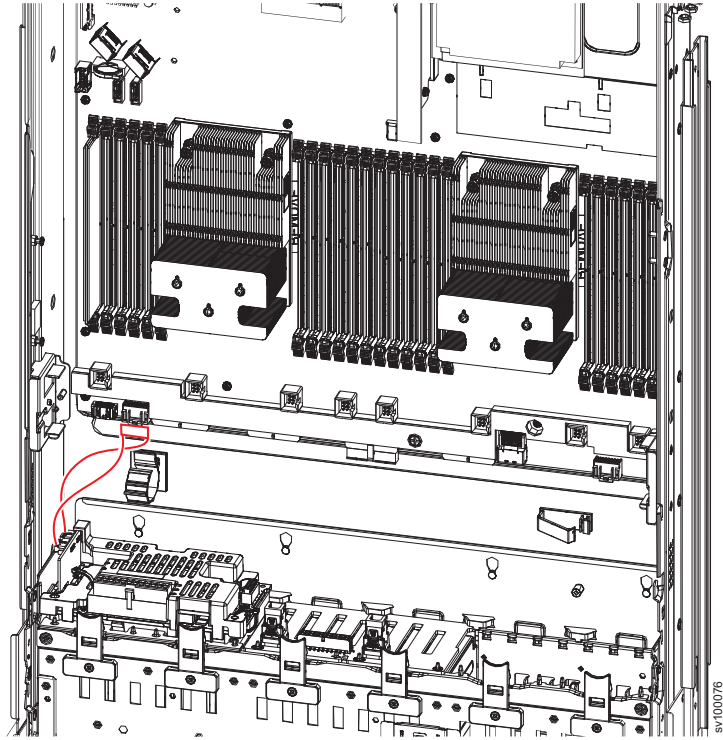

Figure 155. 2145-SV1 battery backplane power sense cable
4. Remove the power sense cable between the battery backplane and the main board, as shown in Figure 155 on page 187.